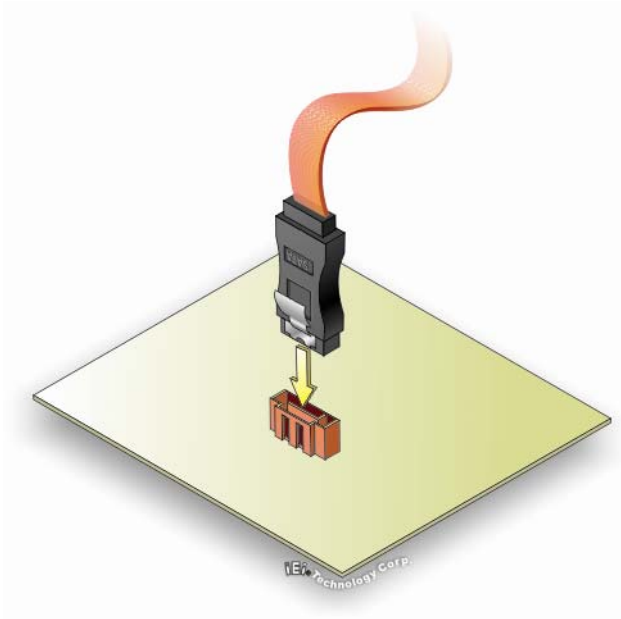

Figure 4-9: SATA Drive Cable Connection
- Step 2: Insert the cable connector.** Insert the cable connector into the on-board SATA drive connector until it clips into place. See **Figure 4-9**.